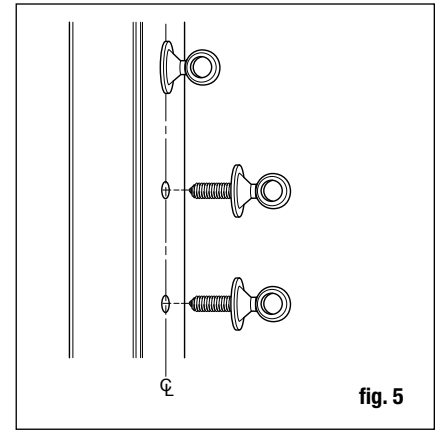

fig. 5
Step 8: Install eye lag screws into the predrilled post sleeve holes on both ends of rail (fig. 5). *Tip: Use a 5/8" socket and drill to install eye lags into post.*